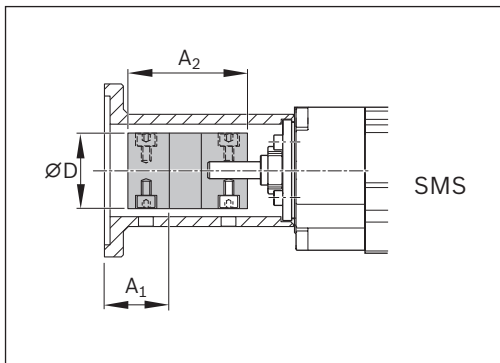

Fig. 9: Dimensions $A_1/A_2/D$
1. Push the flange (1) into/onto the locating feature on the product and screw it down onto the end block (3) using screws (2).
2. Insert coupling (4) into the flange on the screw journal (5) of the product and set dimension A_1 ➡ Fig. 9 and Table 5.
3. Tighten the screws (6) of the coupling.
4. Push the motor into the locating feature of flange and coupling and fasten with screws (8) and washers (9).
5. Tighten the screws (7) of the coupling.
6. Mount the flange cover panels (10).
2. Insert coupling (4) into the flange on the screw journal (5) of the product and set dimension A_1 ➔ Fig. 9 and Table 5.